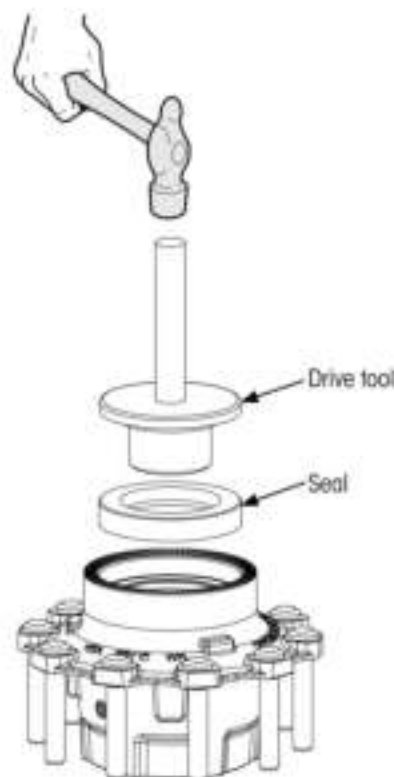

Figure 9: Hub-mounted seal installation
NOTE: A hub seal driver (Figure 9) is recommended and can be obtained from seal manufacturer.
7. Place seal onto the drive tool (Figure 9) for installation into the hub according to seal manufacturer's instructions.